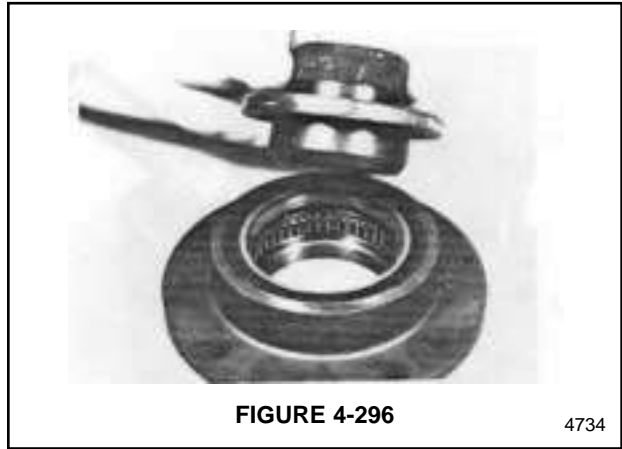

FIGURE 4-296
24. Use a bearing driver to install the bearing into the bearing cover. See Figure 4-296. The top edge of the bearing must be flush with the top edge of the bearing cover. Apply seal ring